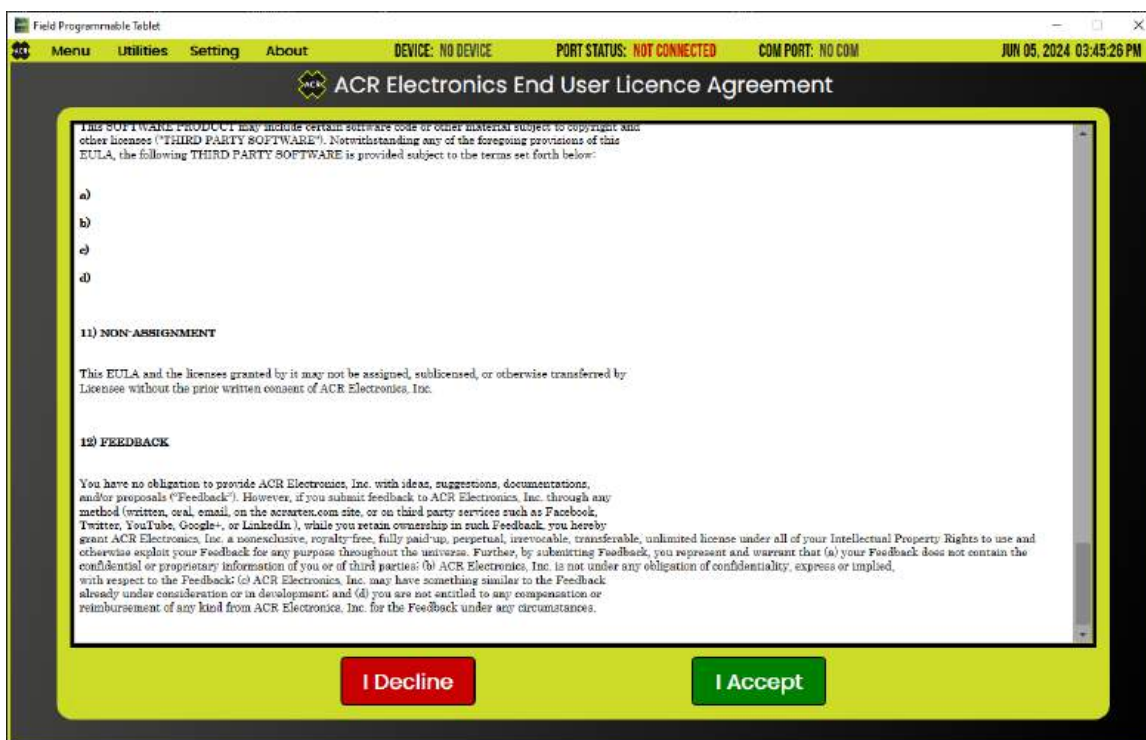

Figure 5 - FPT EULA
7. Once the EULA has been read, the **I Accept** button changes to green (Figure 5) and can be selected.